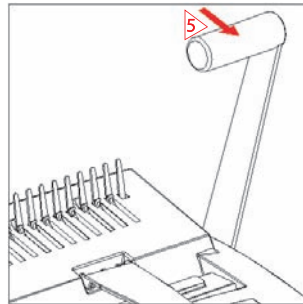

Figure-8
- ▶ Push down the **handle** to close the wire comb as shown figure-8.